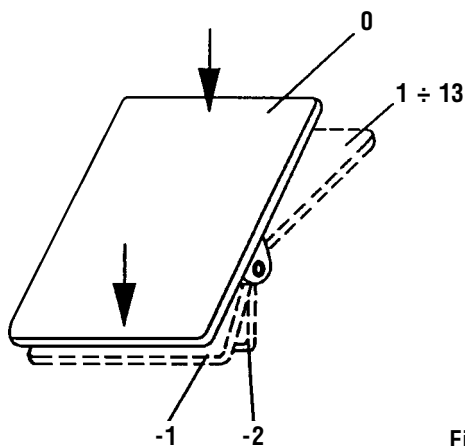

Fig. 14
8.1.1 Via treadle (treadle positions and function possibilities) (Fig. 14)
The position of the treadle is read by the reader, which can recognise 16 levels. Its meaning is shown on the table and see Fig. 14.